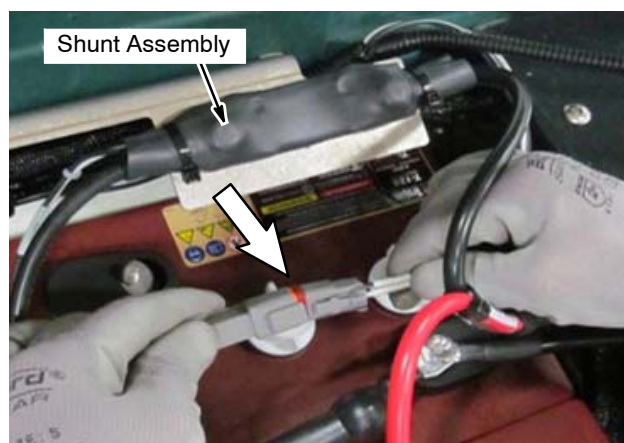

FIG. 3
4. Disconnect telemetry harness from shunt harness (FIG. 3).